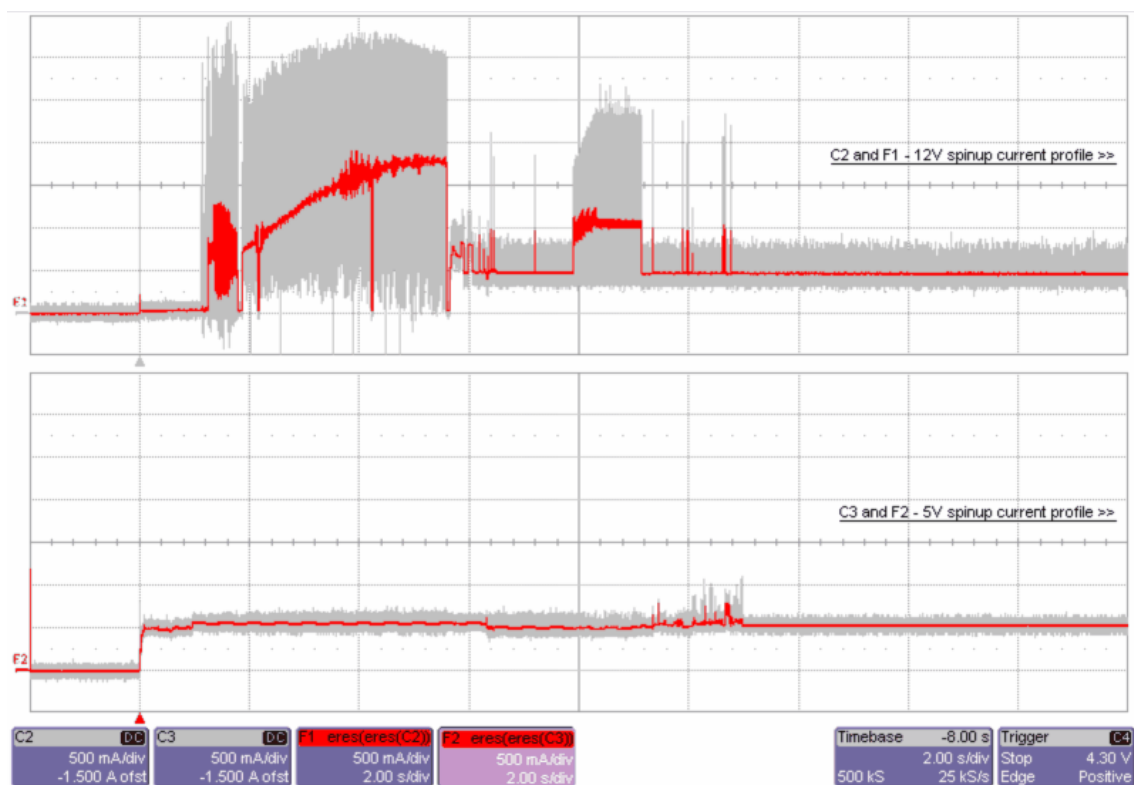

Figure 1. Typical ST360002SS drive +5V and +12V current profiles
- [3] See +12V current profile in Figure 1.
The +12V and +5V current profiles are shown below in figure 1.